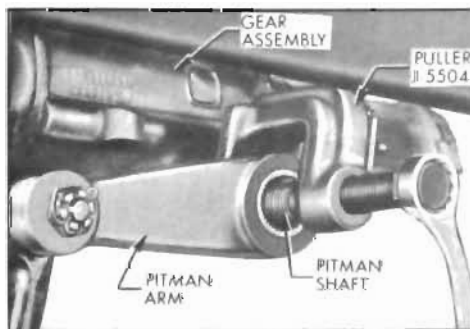

Figure 8-30—Removing Pitman Arm from Pitman Shaft
1. Remove pitman nut and disconnect pitman arm from pitman shaft using Puller J-5504. See Figure 8-30.
4. Jack up car and remove the pitman shaft nut, then remove the pitman arm using Puller J-5504. See Figure 8-30.
1. Remove pitman arm from pitman shaft. See Figure 8-30.